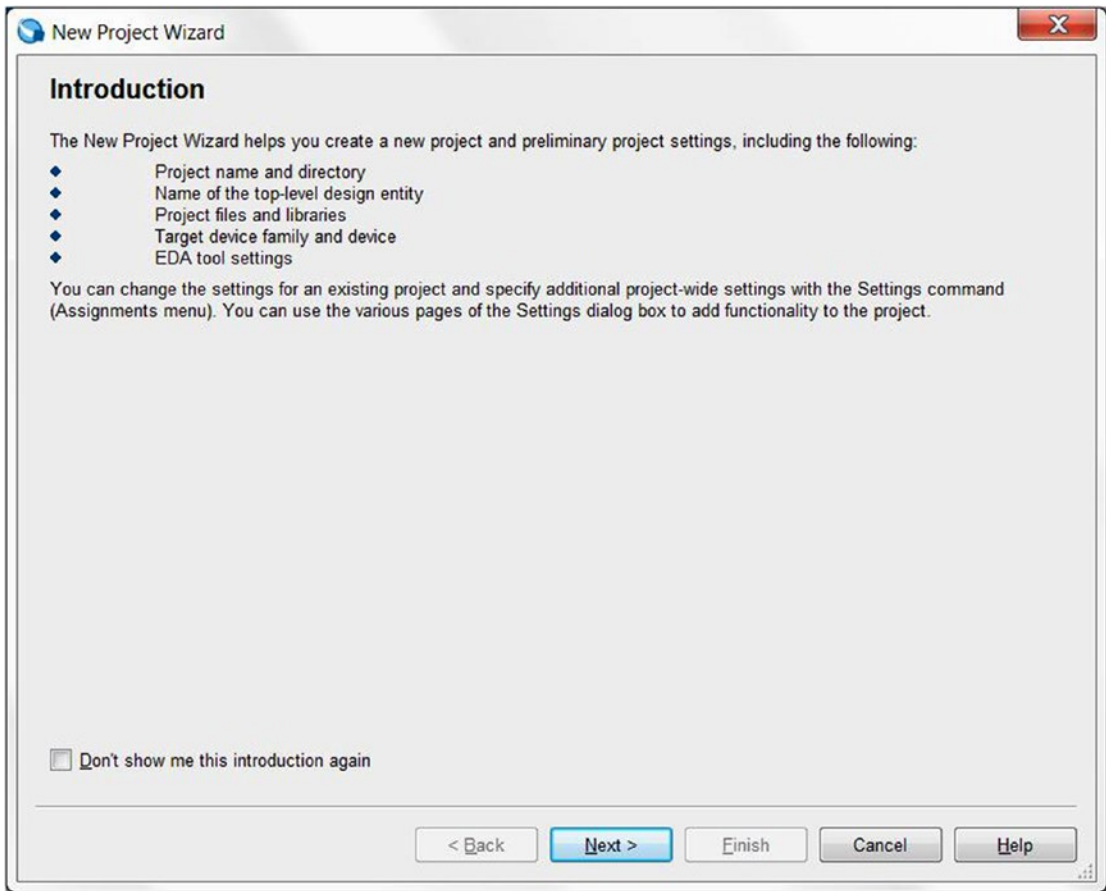

Figure 4-3. New Project Wizard—Introduction
3. The new project wizard will open (Figure 4-3), which is where we decide what kind of project we want. The first page is only an introduction. Click **Next**.